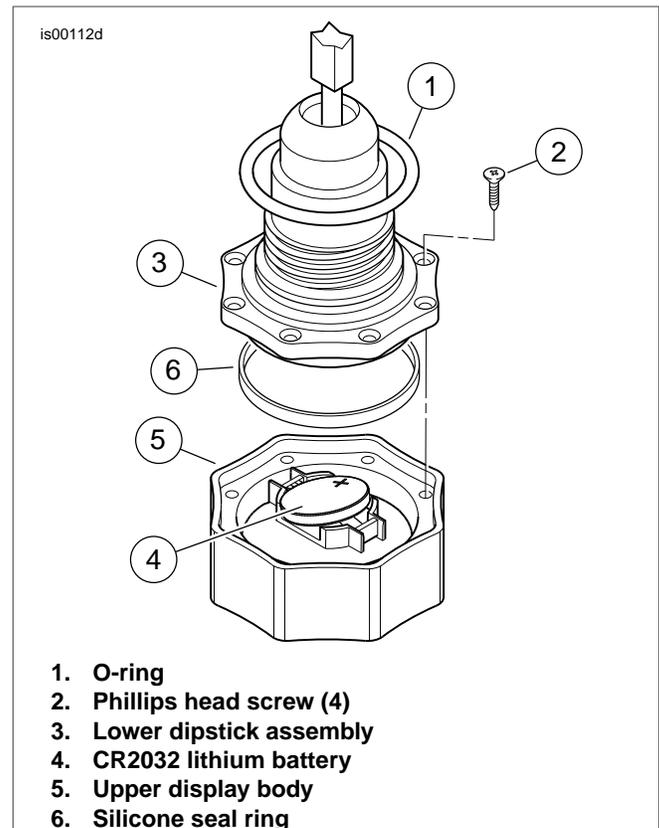

Figure 3. Dipstick Battery Replacement
See Figure 3. Be careful when separating the upper (5) and lower (3) display body assemblies.
1. Remove the four small Phillips head screws (2) on the underside of the display body.
See Figure 3. Mark the upper (5) and lower (3) display body components before disassembly, so they can be assembled in the same rotational alignment. Be careful when separating the two parts of the display body.